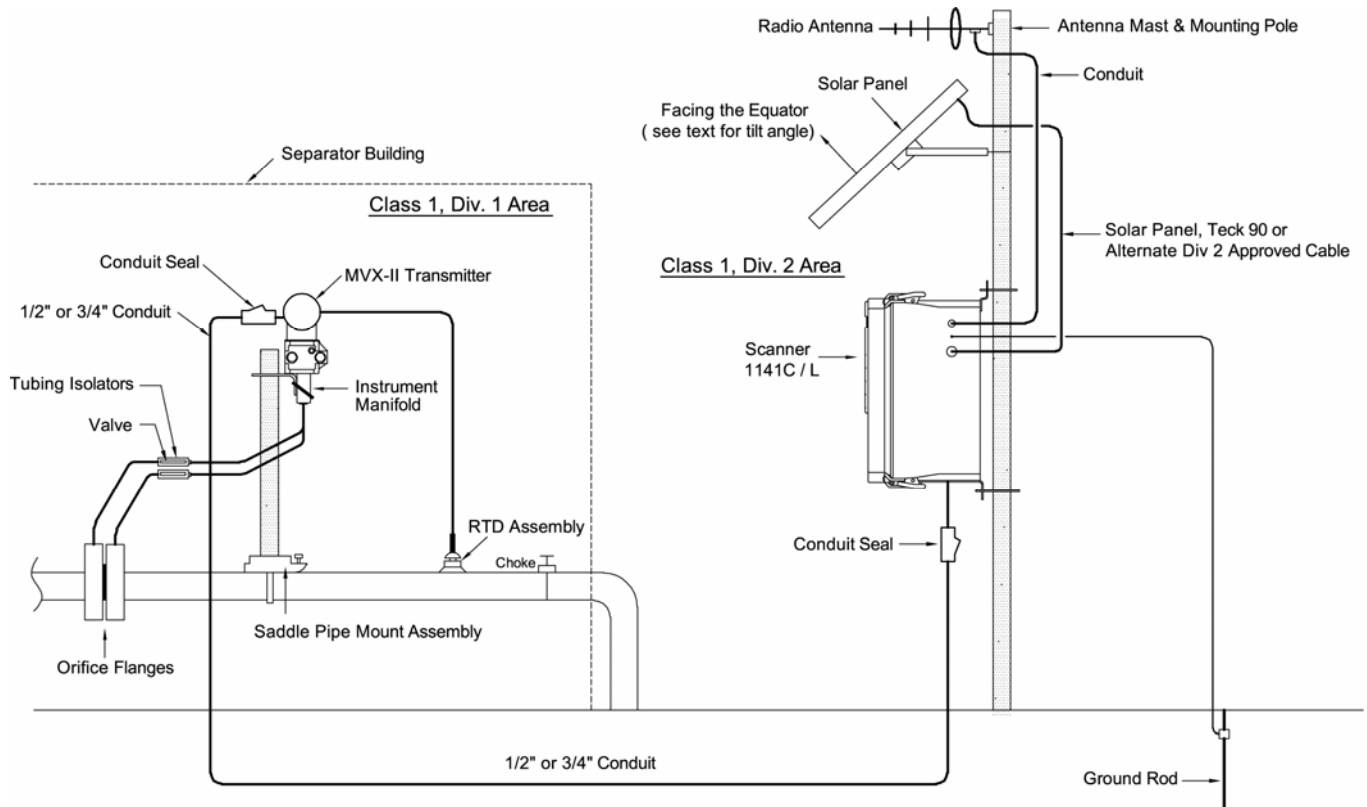

Figure 2.8—Typical installation of Scanner 1141C/L with remote communications
1. Wire the solar panel or power to the barrier terminal block in the back of the 1141 enclosure, connecting the red wire (+) to terminal 2 and the black wire (-) to terminal 3, as shown in Figure 2.8. For an 1141G, it is acceptable to wire directly to the Power+ and Power- terminals (terminals 2 and 3) in the top right corner of the main circuit board (Fig. 2.10)